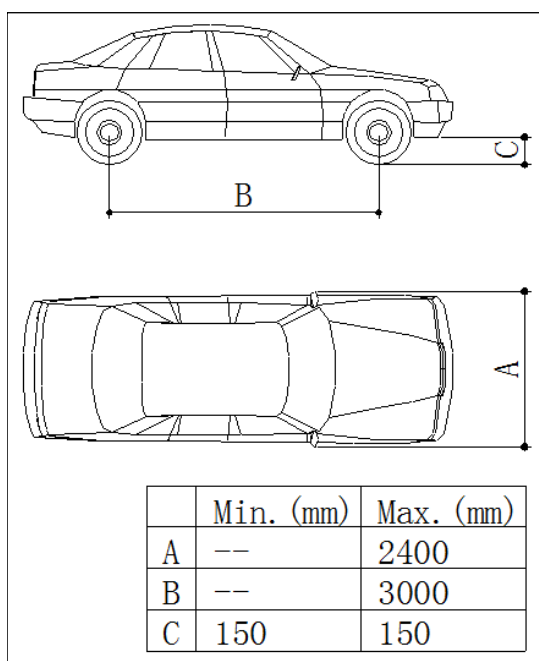
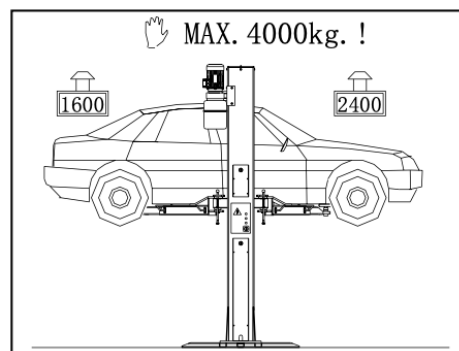

Fig. 8
Fig. 9 Weight Distribution
During lift and descent movements, the operator must remain in the command station as defined in figure 8. The
- ◆ Only authorized vehicle (**Fig. 8 & Fig. 9**) are raised without exceeding the rate capacity and overall dimensions.